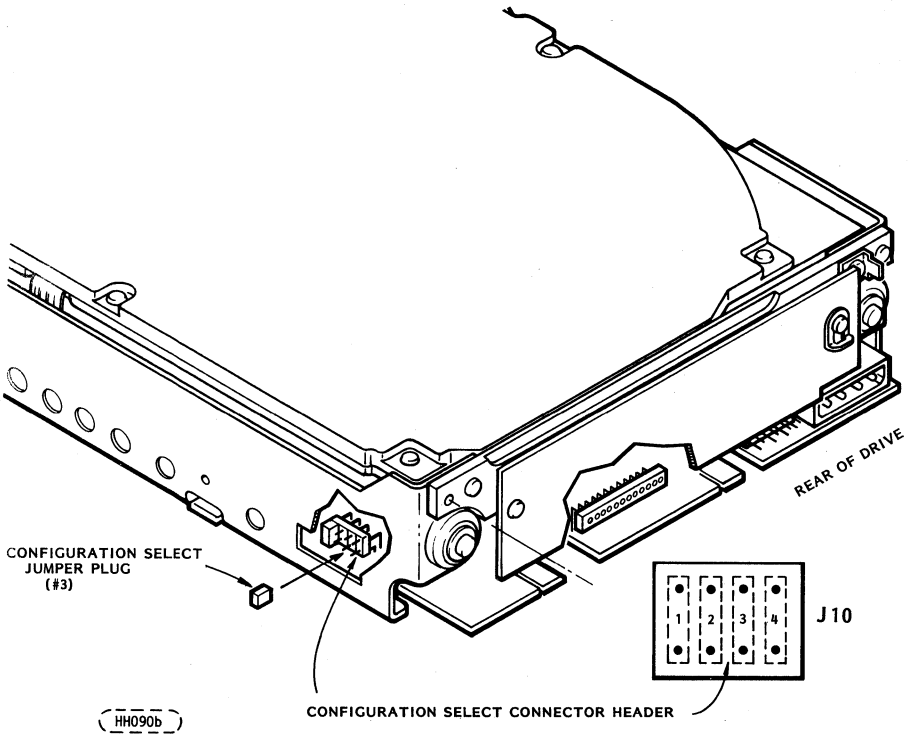

FIGURE 2-4b. CONFIGURATION SELECT HEADER
* See Figure 2-4b
The WREN III HH is configured by installing or removing jumper plugs from pins on a connector header on the Main PWA, which is accessed through a hole in the side of the chassis as shown in Figure 2-4b. The following Table shows the configurations that can be selected.
When power is applied to the drive, the LED operates in one of two different ways, depending on whether or not the motor start option jumper is in place (see Figure 2-4b). Refer to paragraph 5.1.1 for a description of the power-up sequence, in which details of LED operation are given.